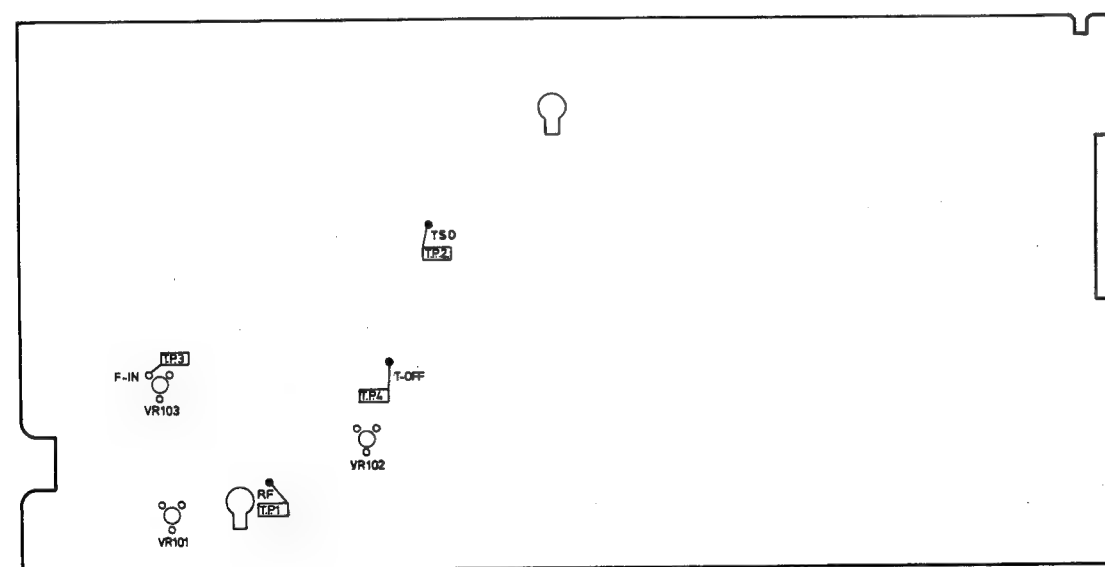

Fig. 28
- Wow & Flutter (Fig. 28)
- Tracking balance (fig. 28, 29)